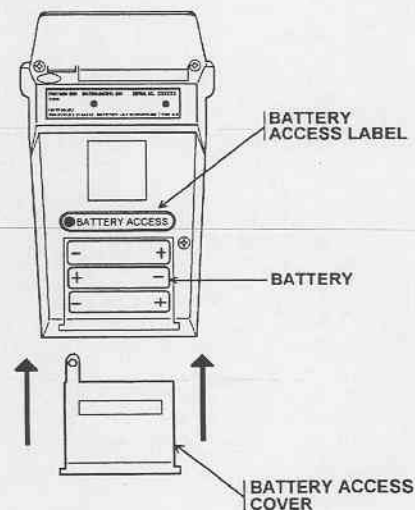

Figure 3-2. Battery access.
b. Slide the battery access cover away from the battery access label to expose the batteries (fig 3-2).